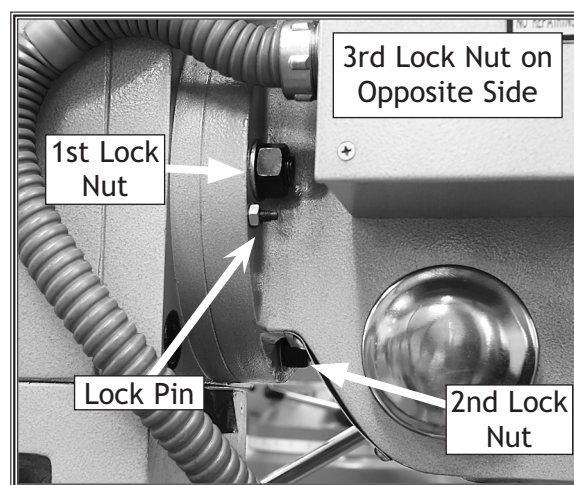

Figure 14. Controls for tilting spindle head.
2. Loosen the three nuts that lock the spindle in place (see **Figures 14 & 15**).